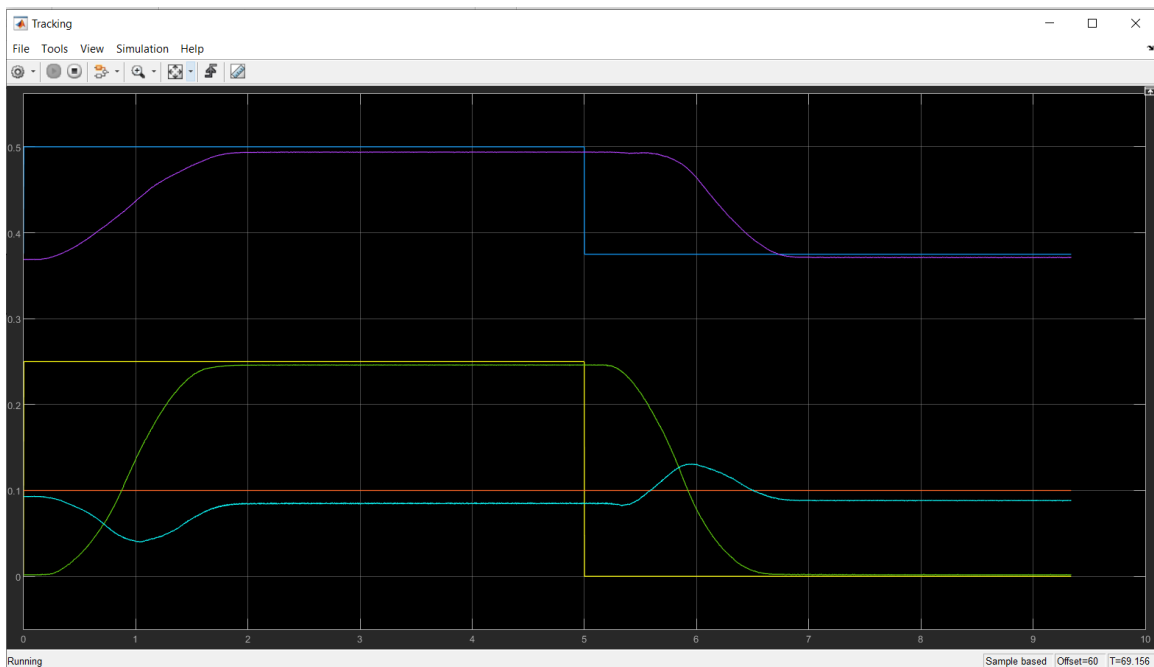

Figure 4: Sample result showing commanded and actual end-effector positions
5. Use the Tracking scope to monitor the desired and actual end-effector positions as the manipulator follows the learned waypoints. Sample results are shown in Figure 4.